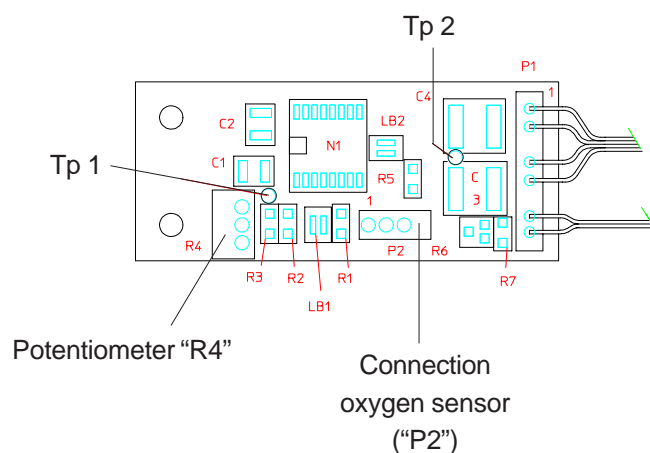

Fig. 23-5: PCB "OXS", assembled, horizontal projection
- Disconnect the connector for the sensor from “P2” of circuit board “OXS” (see Fig. 23-5).
- Connect the connector for the sensor to "P2" of circuit board "OXS" (see Fig. 23-5 / Item 15.).
- Set the signal to 1000 mV DC (± 5 mV) with potentiometer R4 (Fig. 23-5) of the corresponding circuit board "OXS".